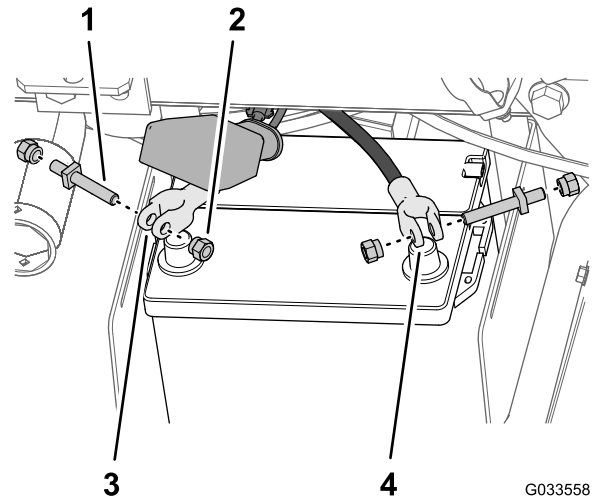

Figure 28
5. Loosely assemble a terminal bolt and a clamp nut to the positive and negative battery-cable clamps (Figure 28).